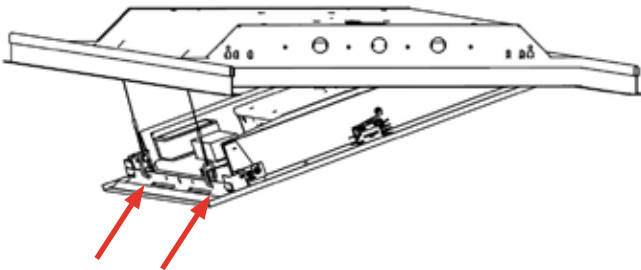

Fig. 12
12. Attach the two safety cables. (See Fig. 12)